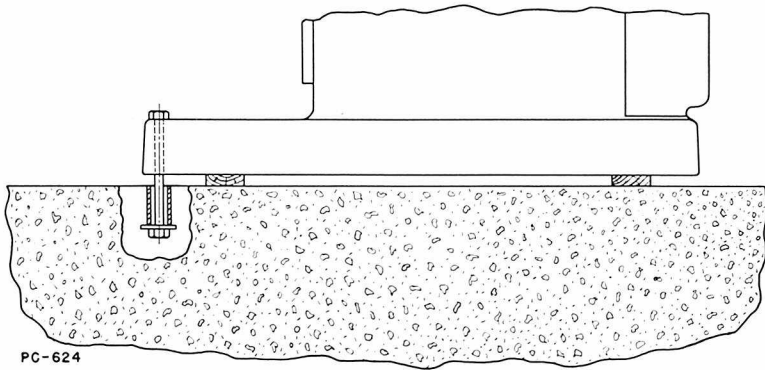

Figure 4
**Bolting the Machine to the Floor.** When preparing for this operation, notice that center distances of bolt holes, given on the data sheet accompanying the machine, are approximated. If the floor is concrete, drill the bolt holes about 6" in diameter. Insert the hold-down bolt through a 1½" pipe, as illustrated in Fig. 4, and fill the pipe with dry sand. Lower the machine on two 1" thick boards, and engage the nuts on two or three threads of the bolts. Fill the holes around the pipe with quick drying cement, thin enough to flow easily. When cement is dry, remove boards, level machine and tighten hold-down nuts.